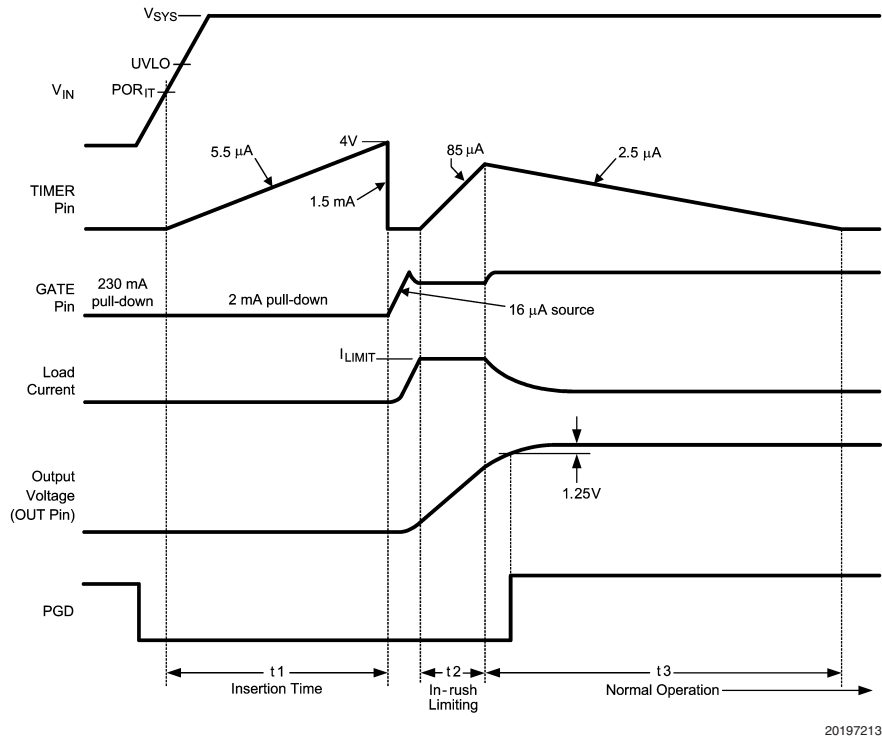

FIGURE 3. Power Up Sequence (Current Limit only)
As the voltage at the OUT pin increases, the LM5069 monitors the drain current and power dissipation of MOSFET Q1. In-rush current limiting and/or power limiting circuits actively control the current delivered to the load. During the in-rush limiting interval (t_2 in Figure 3) an internal 85 μ A fault timer current source charges C_T . If Q1's power dissipation and the input current reduce below their respective limiting thresholds before the TIMER pin reaches 4.0V the 85 μ A current source is switched off, and C_T is discharged by the internal 2.5 μ A current sink (t_3 in Figure 3). The in-rush limiting interval is complete when the voltage at the OUT pin increases to within 1.25V of the input voltage (V_{SYS}), and the PGD pin switches high.
A charge pump provides internal bias voltage above the output voltage (OUT pin) to enhance the N-Channel MOSFET's gate. The gate-to-source voltage is limited by an internal 12V zener diode. During normal operating conditions (t3 in Figure 3) the gate of Q1 is held charged by an internal 16 μA current source to approximately 12V above OUT. If the maximum V_{GS} rating of Q1 is less than 12V, a lower voltage external zener diode must be added between the GATE and OUT pins. The external zener diode must have a forward current rating of at least 250 mA.
During the insertion time (t1 in Figure 3) the GATE pin is held low by a 2 mA pull-down current. This maintains Q1 in the off-state until the end of t1, regardless of the voltage at VIN or UVLO.
Following the insertion time, during t2 in Figure 3, the gate voltage of Q1 is modulated to keep the current or power dissipation level from exceeding the programmed levels. While in the current or power limiting mode the TIMER pin capacitor is charging. If the current and power limiting cease before the TIMER pin reaches 4V the TIMER pin capacitor then discharges, and the circuit enters normal operation.
The series pass MOSFET (Q1) is enabled when the input supply voltage (V_{SYS}) is within the operating range defined by the programmable under-voltage lockout (UVLO) and over-voltage lock-out (OVLO) levels. Typically the UVLO level at V_{SYS} is set with a resistor divider (R1-R3) as shown in Figure 1. When V_{SYS} is below the UVLO level, the internal 21 μ A current source at UVLO is enabled, the current source at OVLO is off, and Q1 is held off by the 2 mA pull-down current at the GATE pin. As V_{SYS} is increased, raising the voltage at UVLO above 2.5V, the 21 μ A current source at UVLO is switched off, increasing the voltage at UVLO, providing hysteresis for this threshold. With the UVLO pin above 2.5V, Q1 is switched on by the 16 μ A current source at the GATE pin if the insertion time delay has expired (Figure 3). See the Applications Section for a procedure to calculate the values of the threshold setting resistors (R1-R3). The minimum possible UVLO level at V_{SYS} can be set by connecting the UVLO pin to VIN. In this case Q1 is enabled when the VIN voltage reaches the POR_{EN} threshold.
A) Insertion Delay - Upon applying the system voltage (V_{SYS}) to the circuit, the external MOSFET (Q1) is held off during the insertion time (t_1 in Figure 3) to allow ringing and transients at V_{SYS} to settle. Since each backplane's re-